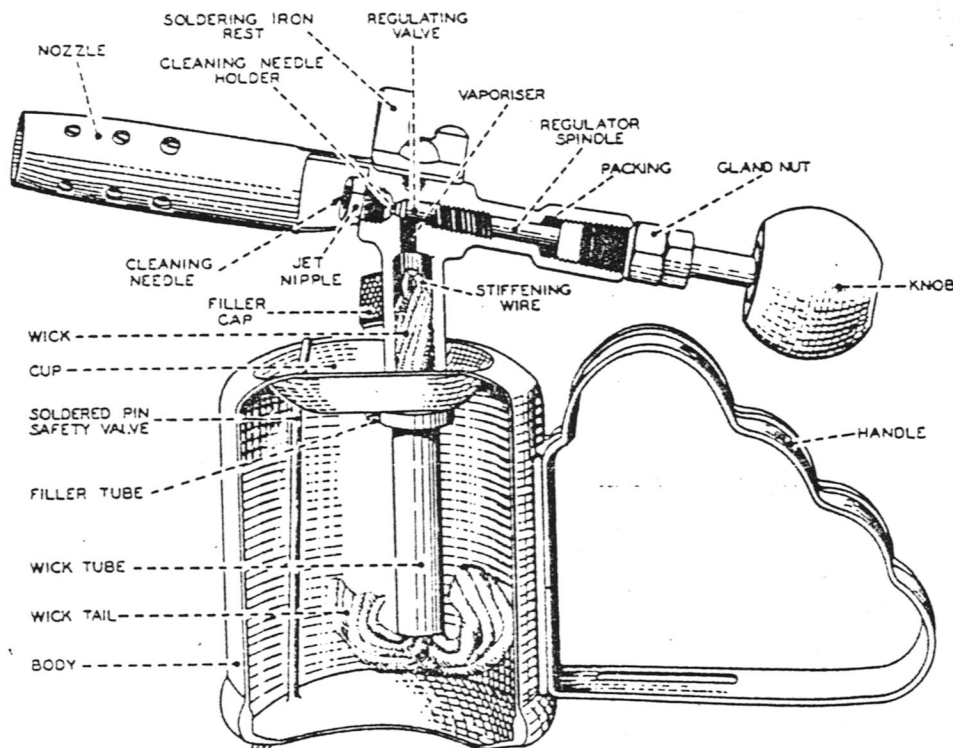

FIG. 5.—LAMP, TORCHBLOWING, No. 3
15. *Lamp, Torchblowing, No. 3.*—Fig. 5 shows a sectional view of this lamp and it can be seen that the construction is similar to the "Lamp, Torchblowing, No. 1". The approximate dimensions are 5 in. high by $7\frac{1}{4}$ in. long.